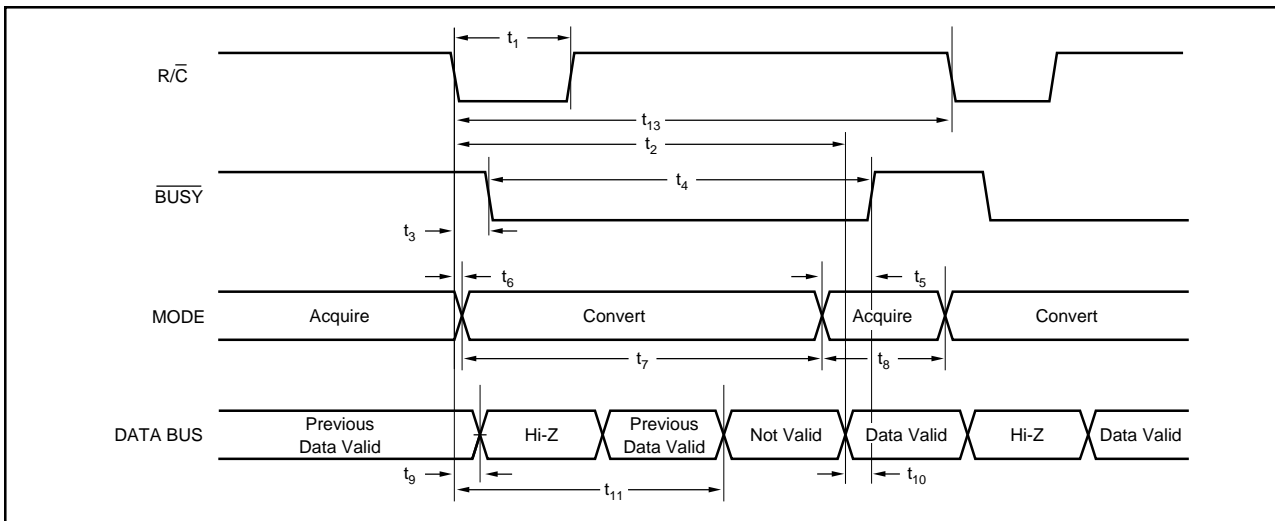

FIGURE 3. Conversion Timing with Outputs Enabled after Conversion ( $\overline{CS}$  Tied LOW.)
The ADS7821 will begin tracking the input signal at the end of the conversion. Allowing  $10\mu\text{s}$  between convert commands assures accurate acquisition of a new signal. Refer to Table II for a summary of  $\overline{CS}$ ,  $\overline{R/C}$ , and  $\overline{BUSY}$  states and Figures 3 through 5 for timing diagrams.
NOTE: (1) See Figures 3 and 4 for constraints on data valid from conversion "n-1".
After conversion 'n' is completed and the output registers have been updated,  $\overline{BUSY}$  (pin 26) will go HIGH. Valid data from conversion 'n' will be available on D15-D0 (pin 6-13 and 15-22).  $\overline{BUSY}$  going HIGH can be used to latch the data. Refer to Table IV and Figures 3 through 5 for timing specifications.
After conversion 'n' has been initiated, valid data from conversion 'n-1' can be read and will be valid up to 5 $\mu$ s after the start of conversion 'n'. Do not attempt to read data from 5 $\mu$ s after the start of conversion 'n' until  $\overline{BUSY}$  (pin 26) goes HIGH; this may result in reading invalid data. Refer to Table IV and Figures 3 through 5 for timing specifications.
The number of control lines can be reduced by tying  $\overline{CS}$  LOW while using  $R/\overline{C}$  to initiate conversions and activate the output mode of the converter. See Figure 3.